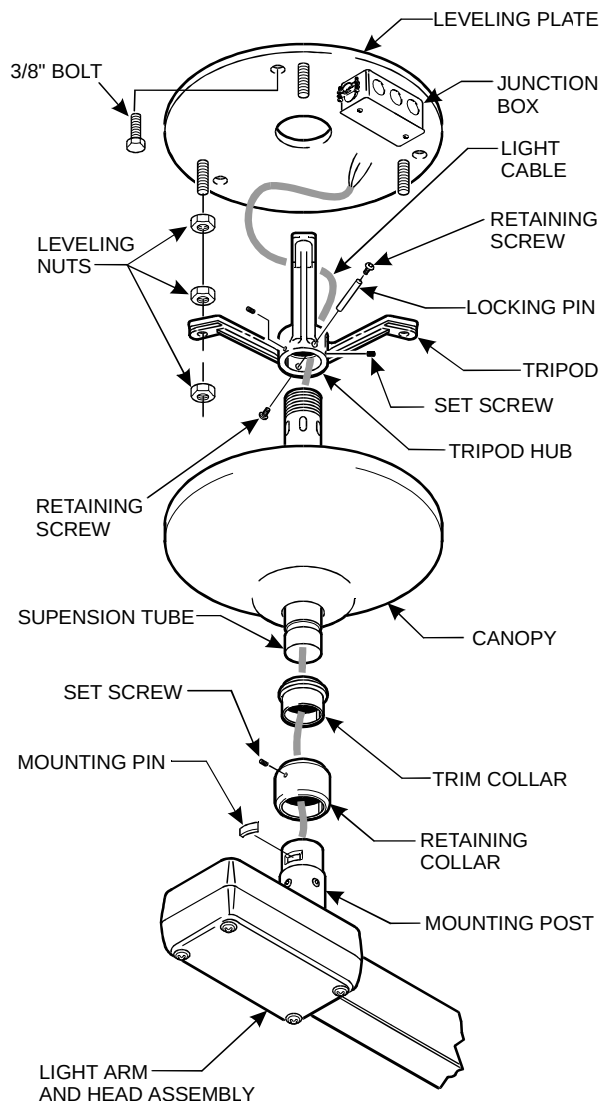

Figure 2
1. After preparing a mounting location as suggested in the pre-installation instructions, secure the leveling plate to the ceiling using three 3/8" bolts (See Figure 2).
2. Mount the tripod on the leveling plate as shown in Figure 2.
1. Thread the suspension tube into the tripod hub hand tight. Turn the tube backwards until one of the slots in the tube lines-up with the locking pin hole in the tripod. (See Figure 2).